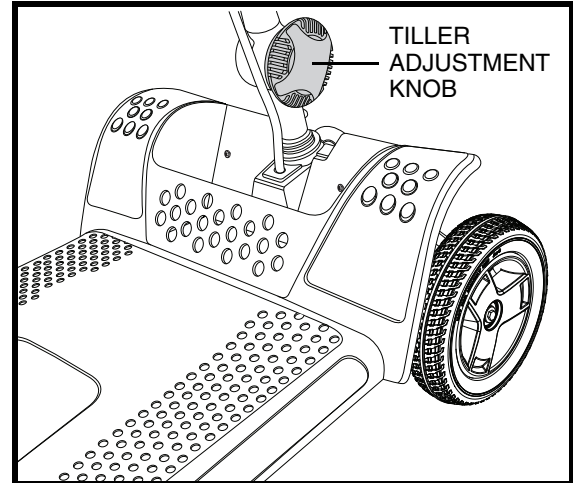

Figure 19. Tiller Adjustment Knob
1. While supporting the tiller, turn the tiller adjustment knob counterclockwise to loosen the tiller. **See figure 19.**